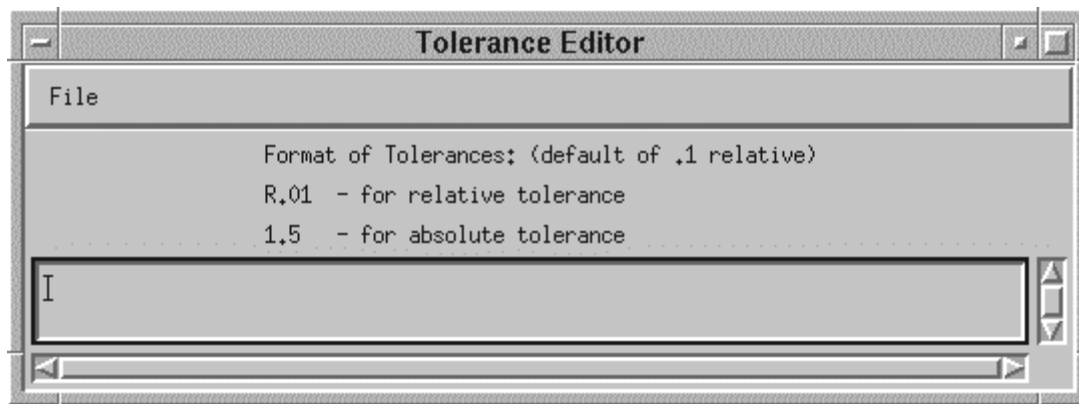

Figure 4.5.1-23. Tolerance Editor Pop-up
- This interface allows the operator to input comparison coefficients (shown in Figure 4.5.1-21 as radio buttons **1** through **10** next to the **Tolerance** button on the HDF File Comparison Pop-up).